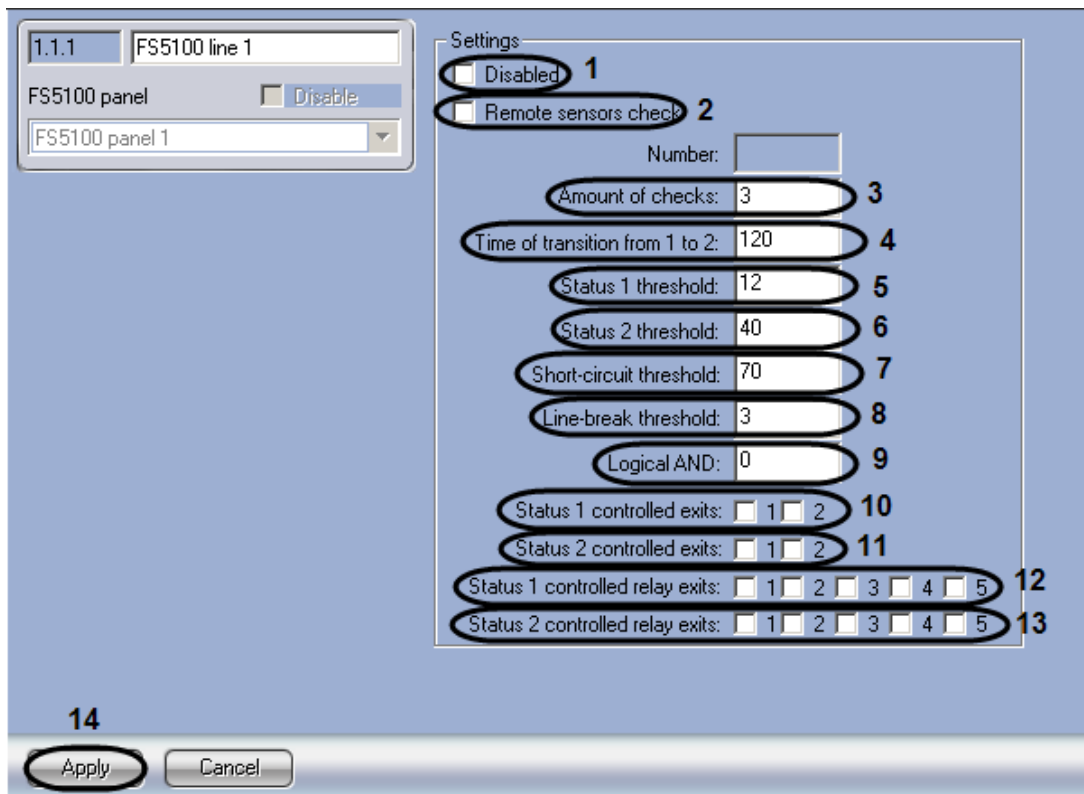

Figure 3.4—3 Setting panel of the Line object
1. Go to the setting panel of the **Line** object (Figure 3.4—3).
2. To stop line inquiry set the **Disabled** checkbox (Figure 3.4—3, 1).
3. To check remote sensors set the **Remote sensors check** checkbox (Figure 3.4—3, 2).
4. In the **Amount of checks** field set the amount of checks after which the condition of fire will be confirmed. Number of checks can vary from 1 to 3 (Figure 3.4—3, 3).
5. In the **Time of transition from 1 to 2:** field set the time of transition from FIRE CONDITION STAGE I to FIRE CONDITION STAGE II (in seconds) (Figure 3.4—3, 4).
6. In the **Status 1:** field set threshold valuation of fire condition stage 1 in milliamperes (Figure 3.4—3, 5).
7. In the **Status 2:** field set threshold valuation of fire condition stage 2 in milliamperes (Figure 3.4—3, 6).